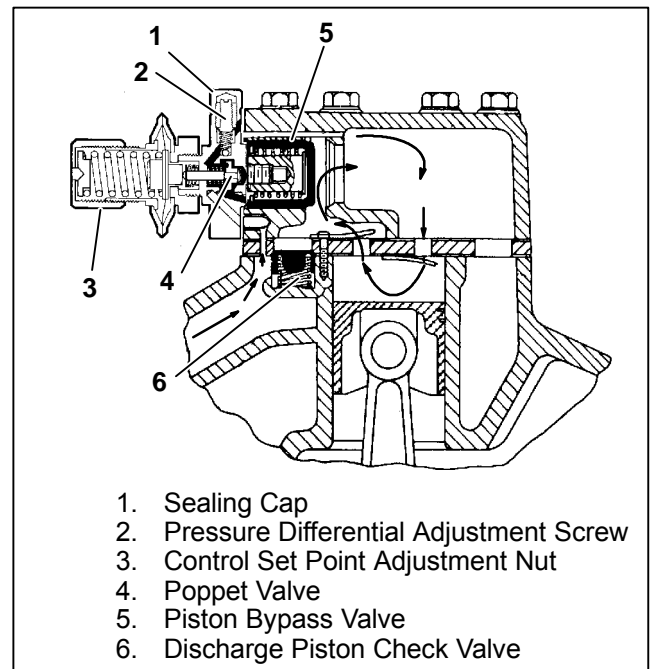

Figure 1-9. Pressure-Operated Unloader - Unloaded Operation
During *unloaded operation*, (Figure 1-9) when suction pressure drops below the valve control point, the poppet valve (4) will open. Discharge gas bleeds from behind the bypass piston to the suction manifold. The bypass piston valve (5) opens, discharge gas is recirculated back to the suction manifold and the cylinder bank is unloaded. Reduction in discharge pressure causes the discharge piston check valve (6) to close, isolating the cylinder bank from the discharge manifold.